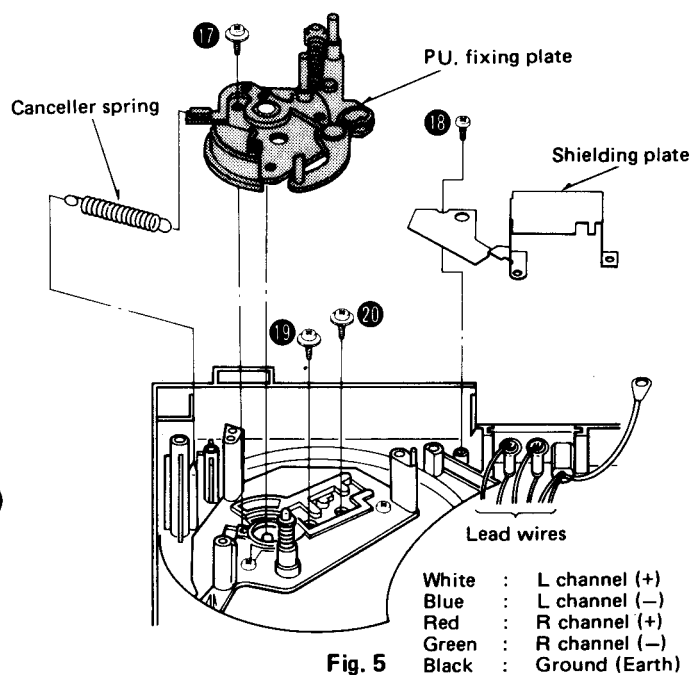

Fig. 5
3. Remove the PU fixing plate setscrew (Fig. 5 : 17). Then the PU fixing plate can be removed.
2. Remove the shielding plate setscrew (Fig. 5 : 18).
3. Unsolder the 5 lead wires of the phono output terminal. (Fig. 5)
4. Remove the tonearm setscrews (Fig. 5 : 19, 20). Then the tonearm can be removed.